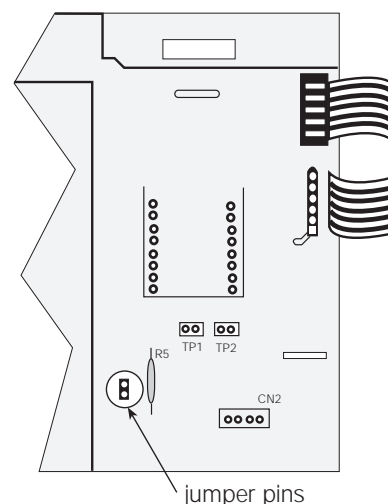

Figure 2-1. Jumper Location
6. Locate jumper JP1 located next to R5 on the CPU board as shown in Figure 2-1. Remove the jumper from one pin and place it on both pins.